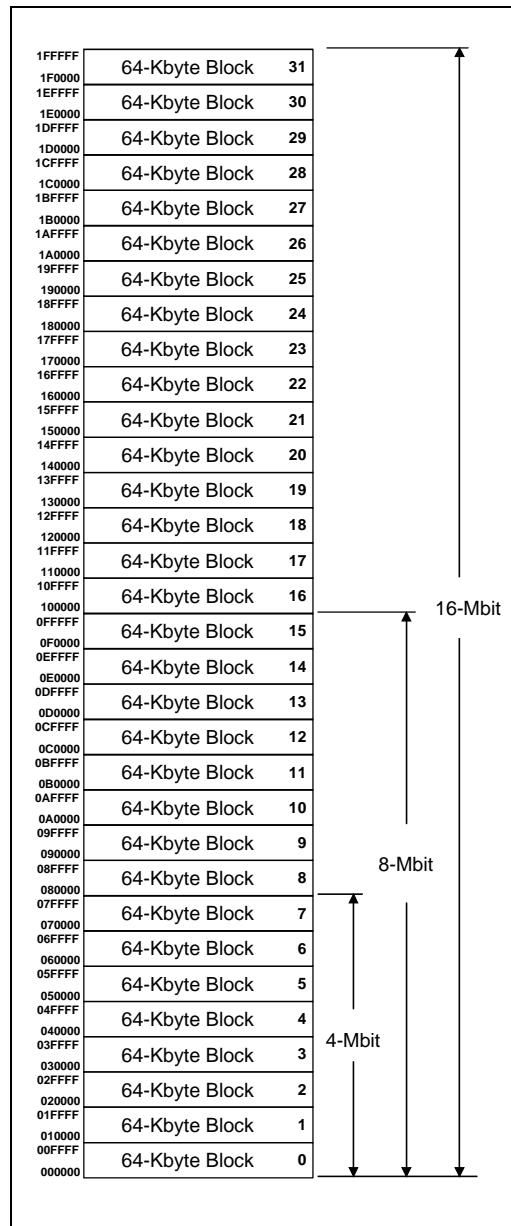

Figure 5. Memory Map
The byte-wide Smart 3 FlashFile memory family provides density upgrades with pinout compatibility for the 4-, 8-, and 16-Mbit densities. The 28F004S3, 28F008S3, and 28F016S3 are high-performance memories arranged as 512 Kbyte, 1 Mbyte, and 2 Mbyte of eight bits. This data is grouped in eight, sixteen, and thirty-two 64-Kbyte blocks which are individually erasable, lockable, and unlockable in-system. Figure 5 illustrates the memory organization.
1. X selects the specific block lock configuration code to be read. See Figure 5 for the device identifier code memory map.